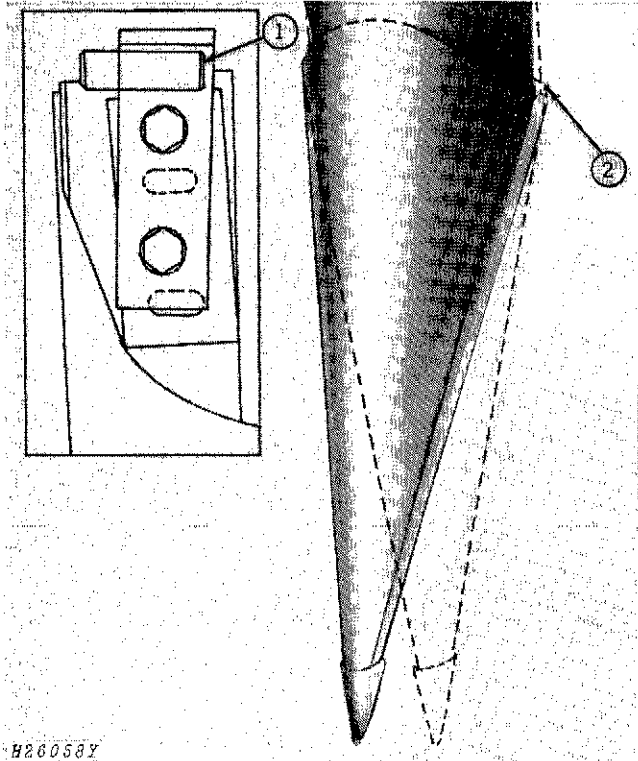

Fig. 103-Installing Outer Gatherer Points
1. Insert hinge pin in hinge hole in outer gatherer sheet (Fig. 103).
2. Attach outer gatherer point to outer gatherer sheet with one 7/16 x 2-inch round head bolt, spacer, 15/32 x 1-1/4 x .105-inch flat washer, lock washer, and nut (Fig. 103).